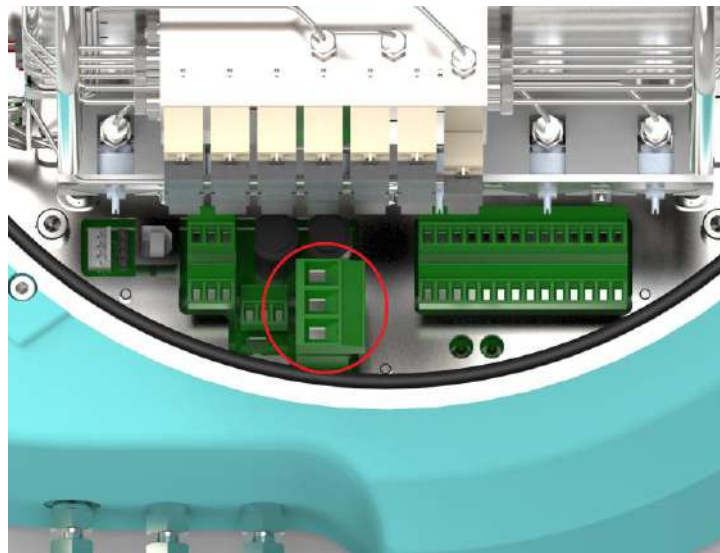

fig. 5-6 Location of Power Supply connector (J14)
- For the location of the internal connector see figure 5.6.